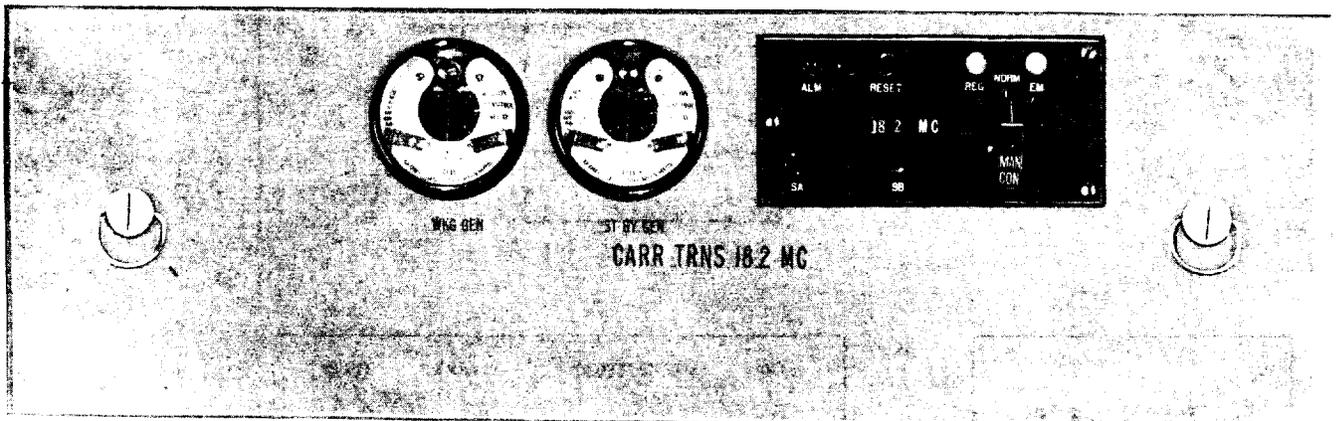
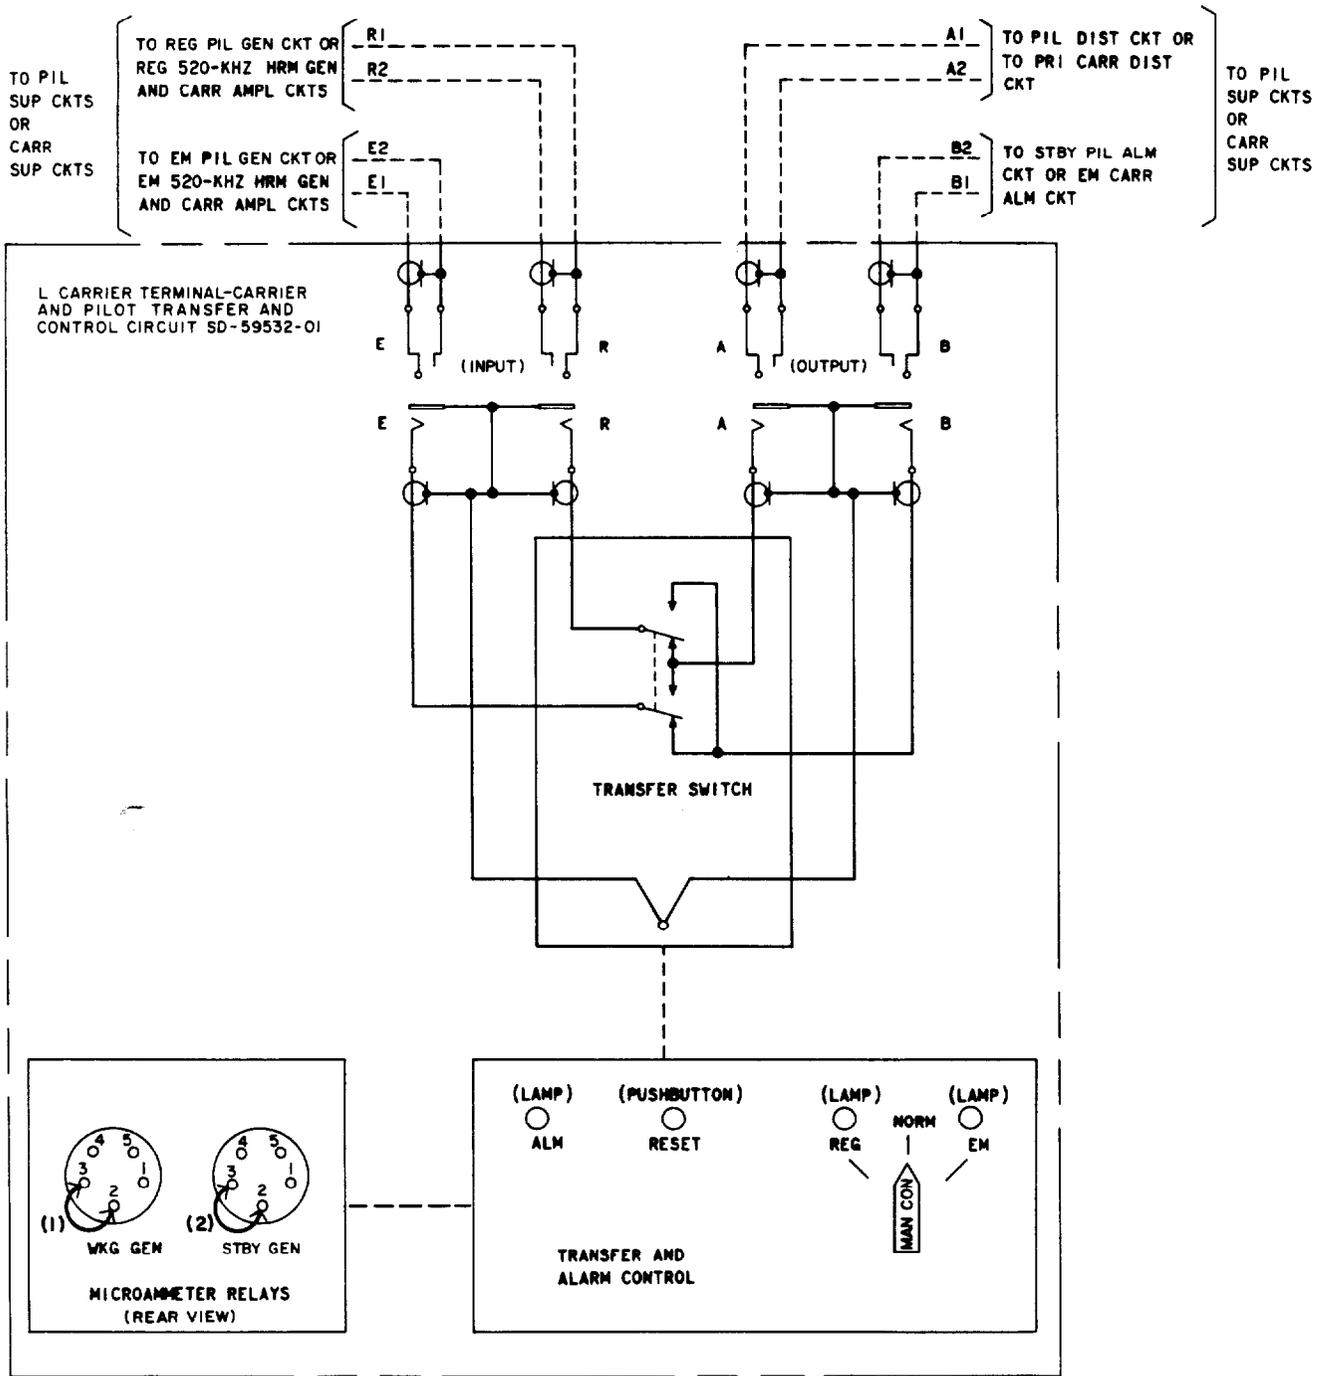

Fig. 1—Typical Carrier or Pilot Transfer and Control Unit
Fig. 2—Carrier or Pilot Transfer and Control Circuit—Block Diagram
The transfer and control circuit (Fig. 1) provides a transfer switch to connect either a regular or an emergency generator to a distributing circuit. It is used in both the carrier-frequency and pilot-frequency circuits. A control system is included to operate the transfer switch and to control the operation of the alarms. Either generator may be manually selected and locked in service as the working generator while maintenance is performed on the idle generator. A block diagram of the transfer and control circuit is shown in Fig. 2.
3	<p>Momentarily connect the test cord between terminals 2 and 3 of the WKG GEN Sensitrol [patch (1), Fig. 2].</p> <p>Requirement: Automatic transfer to the emergency generator is indicated by the following:</p> <ul style="list-style-type: none"> (a) Major alarm sounds briefly. (b) ALM lamp lights briefly (less than one-half second). (c) EM lamp lights. (d) WKG GEN Sensitrol is automatically reset (now indicates output of emergency generator). (e) Minor alarm sounds and the appropriate aisle pilot lamp is lighted.
4	<p>(f) STBY GEN Sensitrol contacts are latched.</p> <p>Momentarily connect the test cord between terminals 2 and 3 of the WKG GEN Sensitrol until the Sensitrol contacts latch [patch (1), Fig. 2].</p> <p>Requirement: Simulated total generator failure is indicated by the following:</p> <ul style="list-style-type: none"> (a) ALM lamp lighted (b) WKG GEN Sensitrol contacts latched (c) STBY GEN Sensitrol contacts latched (d) Major alarm sounds and the appropriate aisle pilot lamp lights.⚡
5	<p>At the front of the transfer and control panel, turn the MAN CON switch (Fig. 2) to the EM position.</p> <p>Note: The transfer switch is now locked in position with the emergency generator providing service to the distributing circuit through output jack A (Fig. 2). If the emergency generator fails at this time, loss of supply to the distributing circuit will occur.</p>
3	Remove the plug from the E jack (Fig. 2) of the transfer and control circuit being tested. Requirement 1: The REG lamp lights (indicates that the emergency generator has failed and the regular generator is continuing to provide service). Requirement 2: The STBY GEN Sensitrol contacts latch. Requirement 3: The minor alarm sounds and the appropriate aisle pilot lamp lights.